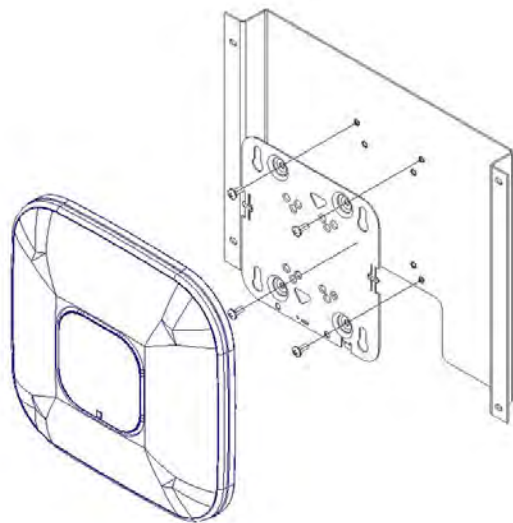

Figure 2
Step 2 – Install the mounting plate onto the mounting bracket using the (4) # 8-32 screws. The triangle cutouts of the mounting plate should be facing down toward the cutout on the bracket. Slide the access point onto the mounting plate using the feet to lock it in place (Figure 2).